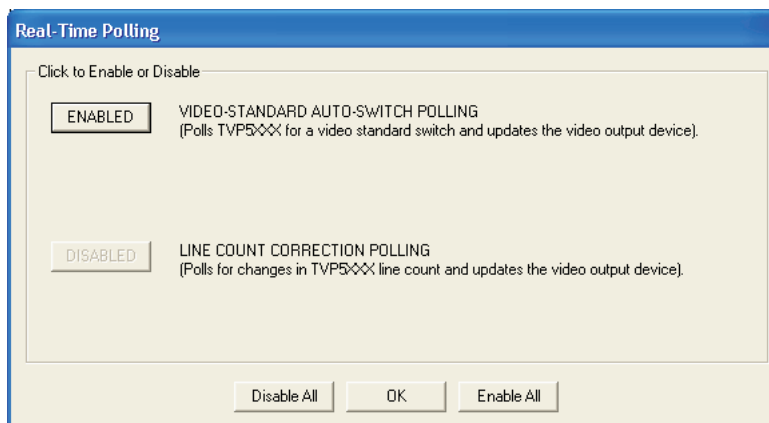

Figure 2. Real-Time Polling Dialog
4. If there are no I²C communication issues, the Real-Time Polling dialog window displays next (see Figure 2). If there are I²C issues, an I²C Test Report dialog box displays. Completely exit out of WinVCC, double-check the parallel port cable connections, cycle power on the TVP5154EVM, and re-run WinVCC.